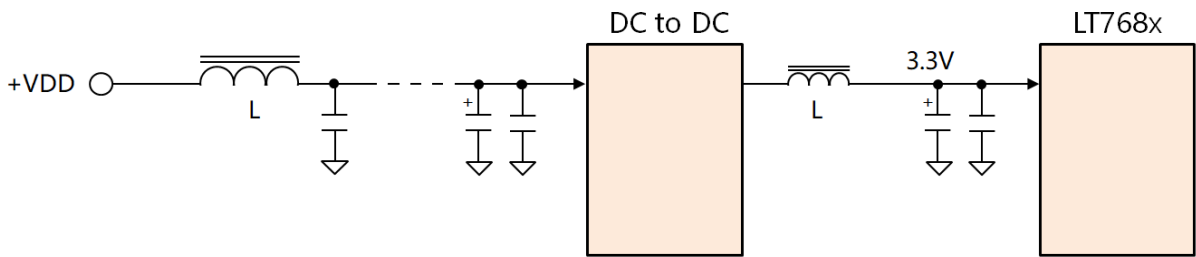

Figure 5: 3.3V DC to DC Adding LC
- 3.3V DC to DC power input and output, add Choke (magnetic beads) in addition to filter capacitor. (Figure 5, 6)